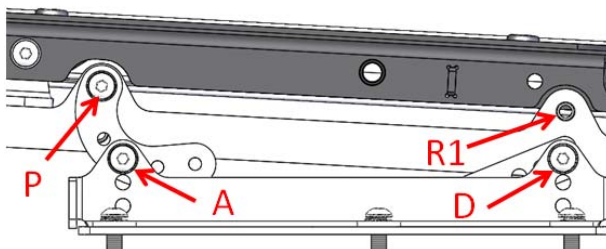

Figure 5-94
5.3.6.6 Use the #5 Allen Key Wrench to loosen the screws from P, A and D on both sides of the seat base. (Figure 5-94) Remove the screw from R2 to R1 according to table 5-2 if it is necessary. But do not tighten it so far.